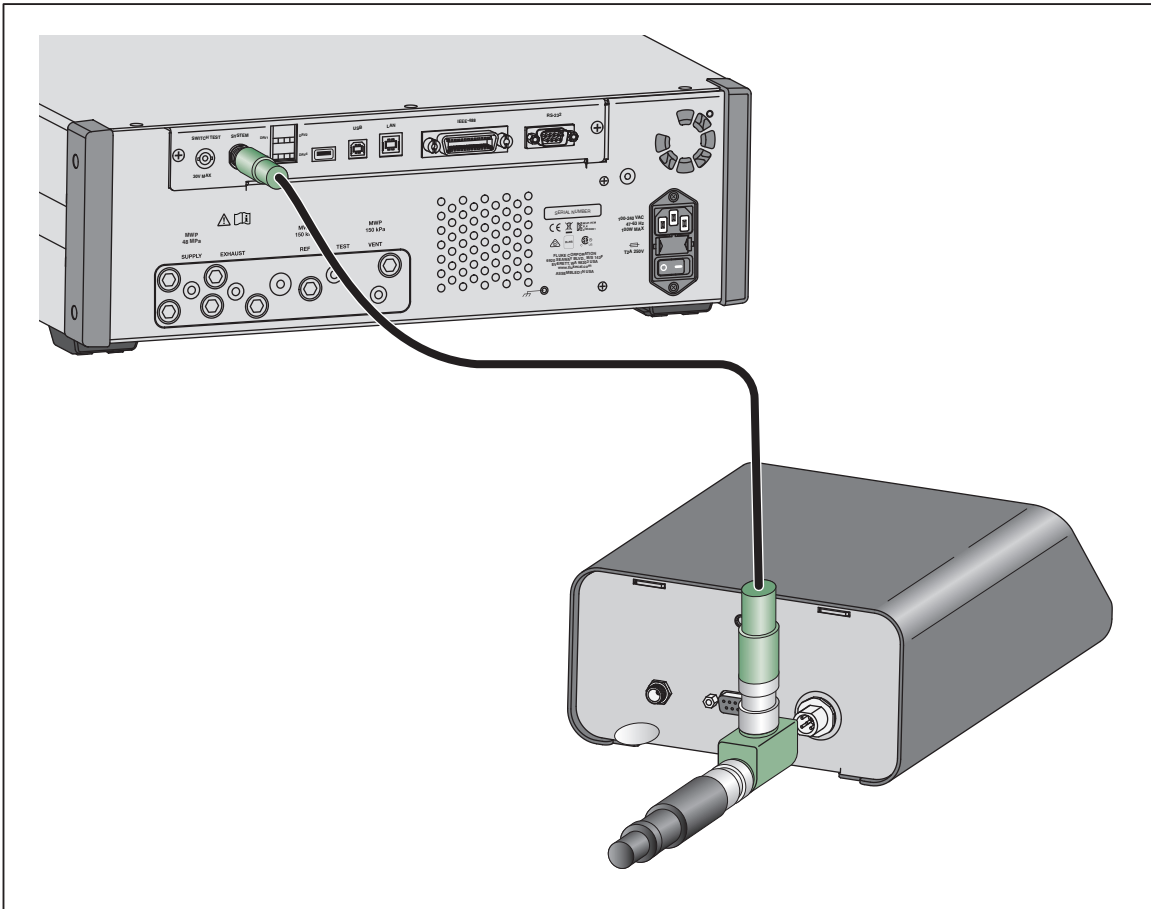

Figure 2. Controller Connections
1. Connect the CAN bus cable to the Docking Station and to the CAN bus connector on the rear panel of the Pressure Controller. See Figure 2.